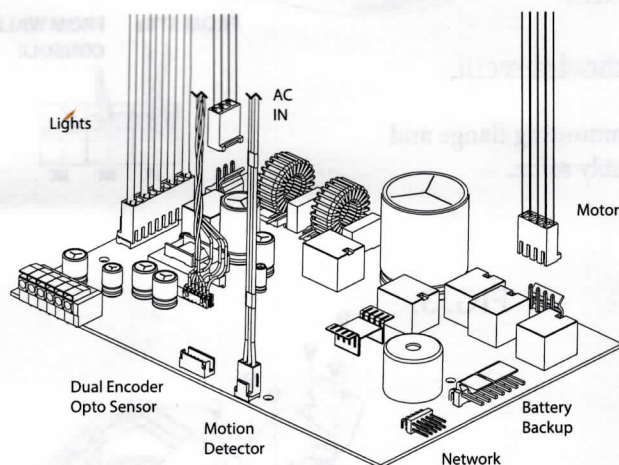

FIG.5.
10. Unplug these harnesses from control board. FIG. 5.
15. Hang powerhead cover to chassis to install harnesses. Including green ground wire to chassis (if equipped) **Note: Be certain to install all harnesses in the correct position being sure to install with locking tabs facing each other. (Detailed in FIG. 5 - Step 10)**